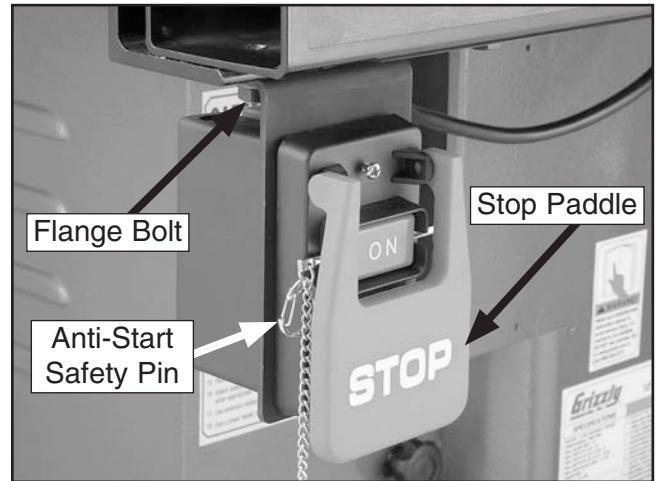

Figure 30. Switch installed.
1. Fasten the switch to the left end of the front rail with two flange bolts, and install the anti-start safety pin as shown in **Figure 30**.
8. Keep a finger on the STOP paddle (**Figure 30**) at all times during the test run.